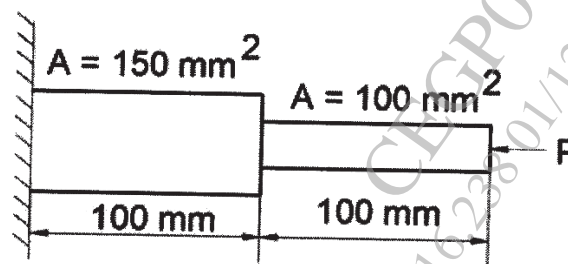

Figure 1:
**Q4)** For the step bar shown in figure 1, Find stress and deformation in elements, reaction at support using 1D elements, if temperature is increased by 40°C. Consider  $E = 210$  GPa,  $\alpha = 12 \times 10^{-6}$  per °C and  $P = 10$  kN. [10]